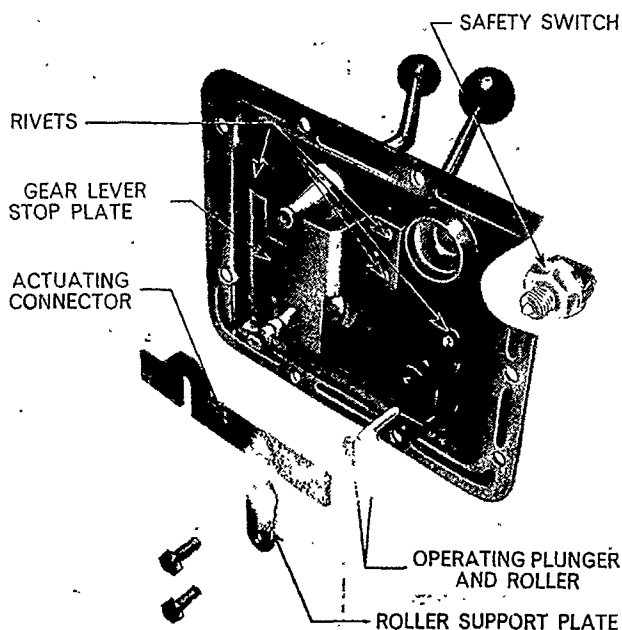

Figure 6
1. The gear shift lever cover is made of cast iron instead of pressed steel. The layout and components, however, differ only slightly from the pressed steel type, Figures 6 and 7.
2. Remove the two self-locking bolts retaining the roller support plate to the switch retainer. Remove the plate, the actuating connector, the roller and the plunger from their locations, Figure 6.
- b. Position the switch actuating connector and install the operating plunger, roller, and roller support plate, Figure 6.